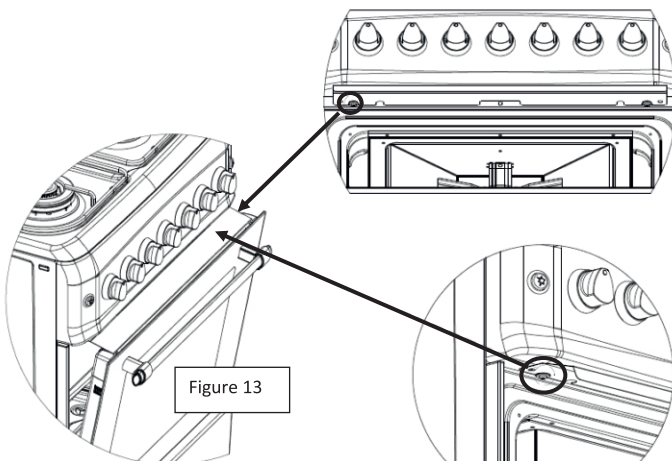

Figure 13
- 5- Place the grill deflector under the control panel by opening the oven door and locating the panel over the lugs as per the diagram below. The panel must be fitted with the symbol facing upwards. Then secure the grill deflector by gently closing the door. (Figure 12 or Figure 13)
Use the grill deflector suitable for your product. (Figure 12 or Figure 13)